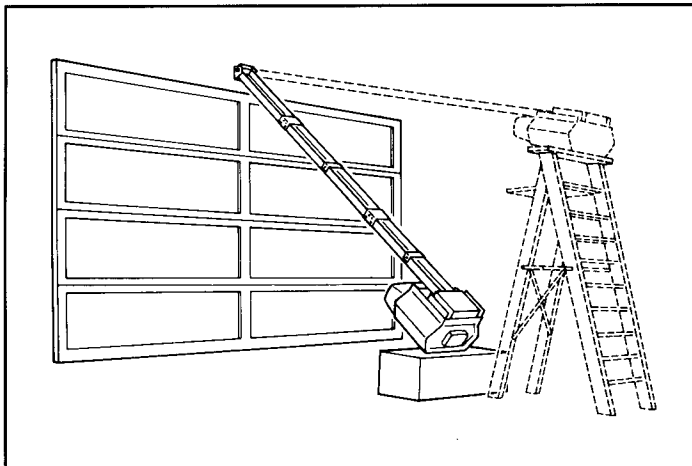

Figure 9
Step 16: Place assembled operator on floor with exposed end of the channel facing door. Put operator head on empty carton (see Figure 9). Place wave washer on clevis pin. Next, raise end of channel and insert it into header bracket. Insert clevis pin through header bracket and channel and secure with hitch pin clip.
When the door is equipped with a torsion spring, the spring extends inward above the door to a distance which creates an angle that makes it impossible to rest the operator head on the floor as shown in Figure 9. For such installation place the power head on a ladder so that the channel will clear the torsion spring and reach the header bracket.
Step 17: Raise the head end of the operator and rest it on a ladder about 8 feet above the floor so that the operator will not obstruct the door when it is opened (see Figure 9). Next, raise garage door to the fully open position.